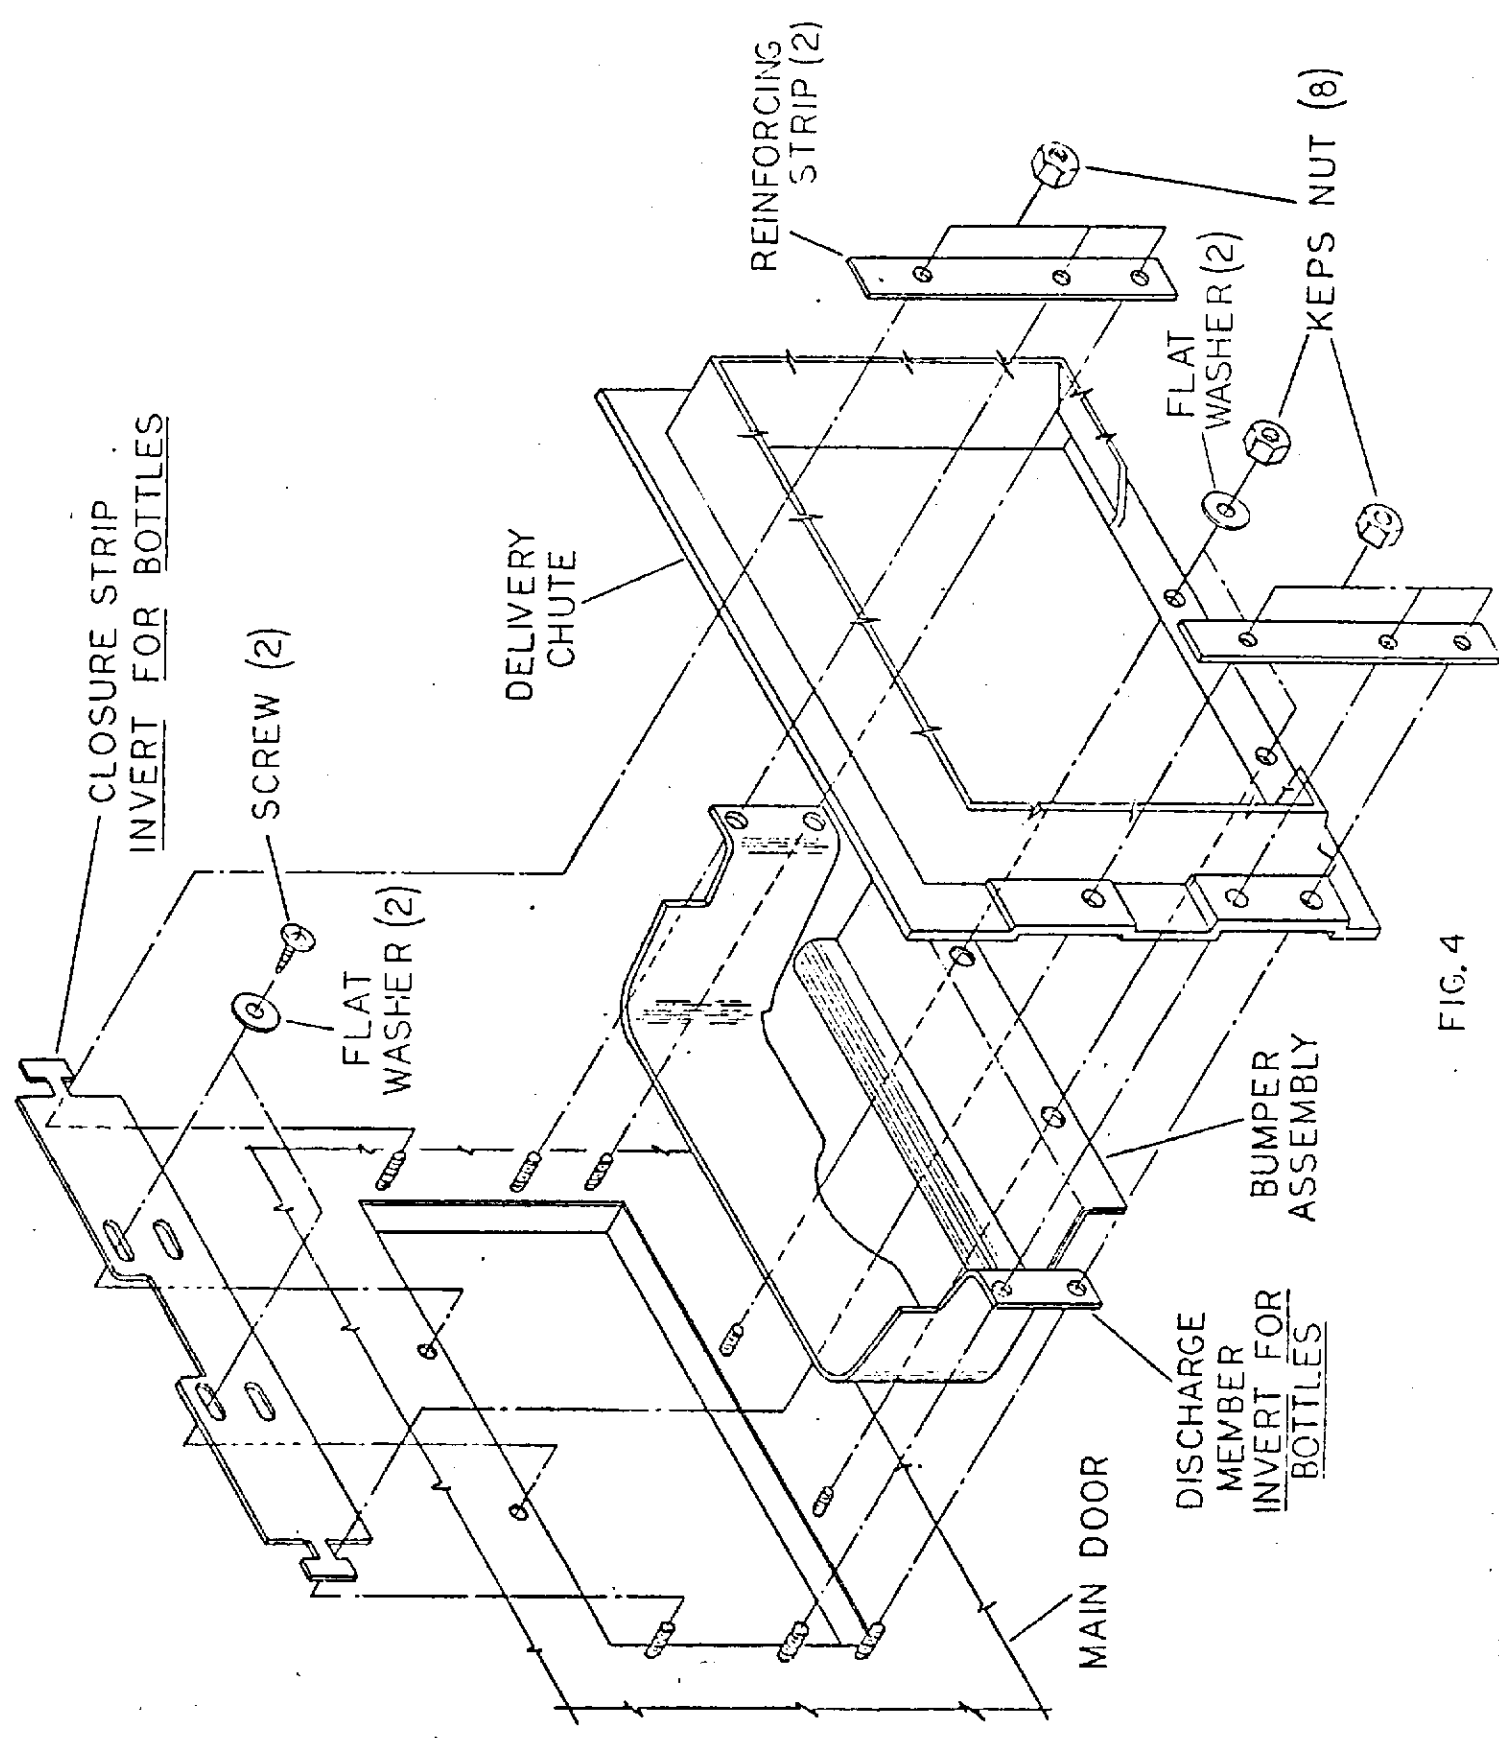

FIG. 4
18. Refer to Fig. 4 for inverting discharge member, closure strip and assembling bumper assembly.
19. Behind the opening "For Pull Rings" is a bracket with three (3) pop rivets in a triangular configuration. Using a 9/64 dia. drill remove the three (3) rivets. Install the opener with three (3) 10-32 x 3/4 machine screws in these holes.